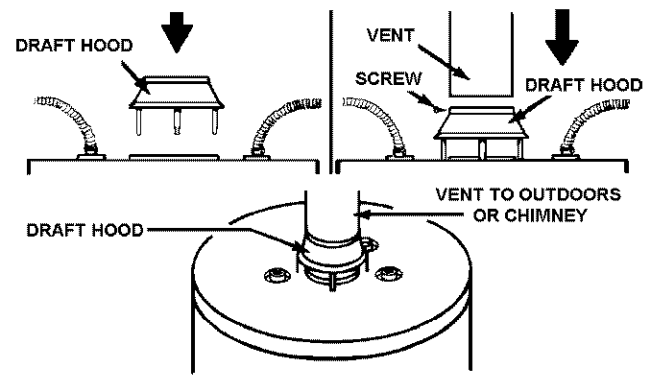

FIGURE 17.
- Place the vent pipe over the draft hood. With the vent pipe in position, drill a small hole through both the vent pipe and draft hood. Secure them together with a sheet metal screw, see Figure 17.